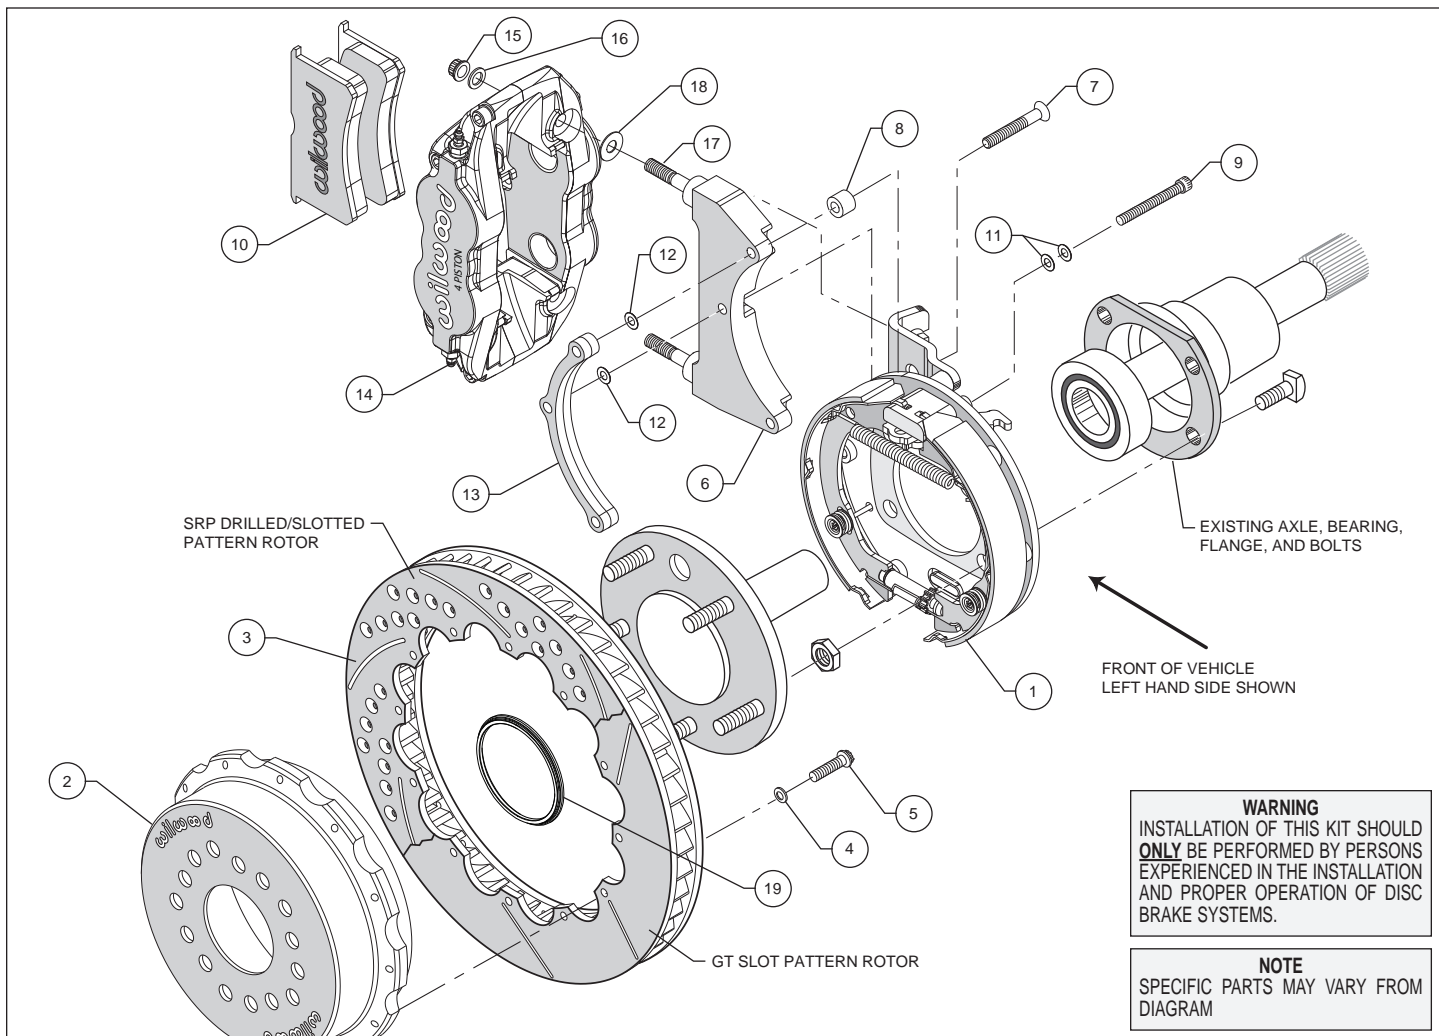

Figure 1. Typical Installation Configuration
- Slide the rotor registration adapter (19) onto the axle register on the axle flange with the smaller O.D. facing toward the rotor/hat (2). Align the correct hole pattern in the hat with the stud pattern on the axle flange. **NOTE:** *Some OEM and aftermarket axles come with stud sizes larger than 0.50" diameter.* Verify stud size and have a qualified machine shop drill the hats to the correct size, if necessary. Slide the hat/rotor assembly (2 and 3) over the wheel studs covering the bracket kit assembly (1) and against the axle flange face. Check to be sure the hat seats squarely against the hub. The hub must be free from any rust, debris, casting burrs, machining irregularities, etc. Install a couple of lug nuts (finger tighten) to keep the rotor/hat assembly in place while continuing with the installation.
- NOTE:** *Please reference the caution statement at the beginning of the assembly instructions.* The caliper mounting bracket assembly (6) should be installed first with clean, dry threads on the mounting bolts (7 and 9). Install the bracket from the front side of the bracket kit assembly (1) between the bracket kit assembly backing plate and the attached bracket on the assembly by sliding top bolt (7) through attached bracket, through spacer (8) placed between the attached bracket and the caliper mounting bracket (6), and through caliper bracket (6). Place two shim washers (12) between caliper mounting bracket (6) and spacer (13) and screw the bolt (7) into the bracket kit (1) backing plate. **NOTE:** *The spacer (8) is only used with the top mounting bolt.* Slide the middle and bottom bolts (9) through two flat washers (11), bracket (6), two shim washers (12), and finally through the spacer (13), see figure 1. **NOTE:** *End of bolts should not exceed inside face of insert. The bracket must tighten squarely against the back side of the bracket kit assembly (1).* Use two shim washers (12) between the bracket (6) and spacer (13) during initial trial fitting.
- Lubricate caliper mounting studs (17) and nuts (15) with lightweight oil. Install two shims (18) over each pre-installed stud (17) on the radial mount bracket (6). Slide the caliper (14) in place over the studs and rotor (3), then install the washer (16) and lock nut (15) to hold the caliper in place. Snug the lock nuts (15) and check that the rotor (3) is centered in the caliper (14). Add or subtract .015" shims (12) as necessary between the caliper mounting bracket (6) and the spacer (13) to center the caliper (14) being sure to use the same number of shims in all three locations.
- Remove the caliper center bridge pad retainer bolt, nut, and tube from the caliper. Slide the brake pads (10) into place. They should install easily without interference. Check that the outside radius of the brake pad is flush with the outside diameter of the rotor face. Add or subtract shims (18) between the caliper (14) and mount bracket (6) to gain the proper alignment. Reinstall the center bridge pad retainer tube, bolt, and locknut. The locknut should be snug without play in the bolt or tube. Be cautious not to over tighten.
- Adjust the parking brake shoes outward (using a drum shoe adjustment tool available at your local auto parts store) while spinning the hat (2) until a slight drag is felt against the hat/drum. Remove the lug nuts that were holding the hat/rotor in place. Install the wheel and lug nuts. Check to see that the wheel rotates freely without interference.
- Once all clearances have been checked, remove the wheel, caliper, hat/rotor from the bracket kit assembly (1). Secure the caliper mounting bracket (6) to the bracket kit assembly (1) using red *Loctite*® 271. Torque bolts (7 and 9) to 180 **in-lb**. Reinstall the hat/rotor assembly and again use lug nuts to hold it in place. Reinstall the caliper, torque the caliper nuts (15) to 30 **ft-lb**.
- NOTE:** *Clevis and cable kits which attach to the parking brake assembly are not included in the Wilwood parking brake kit.* Wilwood offers a generic style parking brake cable kit, P/N 330-9371 for this application which can be ordered separately from your local Wilwood dealer or by calling Wilwood customer service at (805) 388-1188.